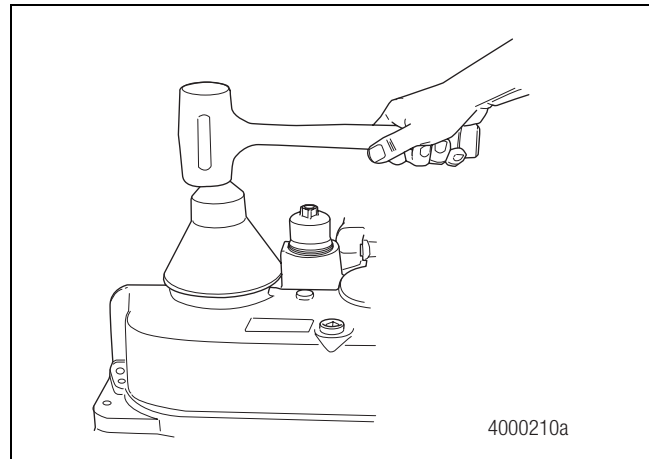

Figure 6.36
1. Install the front output shaft oil seal using the appropriate seal driver. Drive the seal until it is fully seated. Figure 6.36.